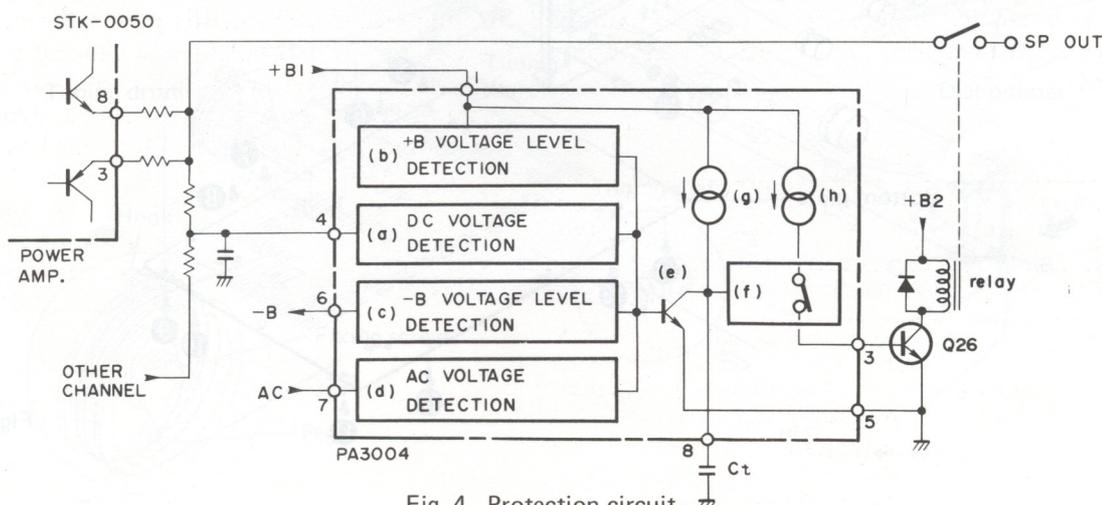

Fig. 4 Protection circuit
**Protection Circuit (Fig. 4)**